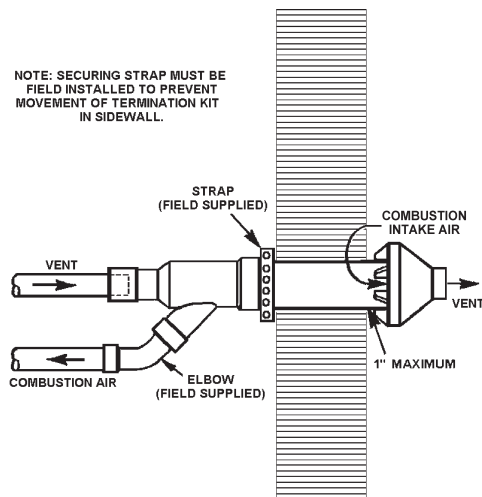

FIGURE 25.
7. Cement heater combustion-air and vent pipes to concentric vent termination assembly. See Figure 25 for proper pipe attachment.